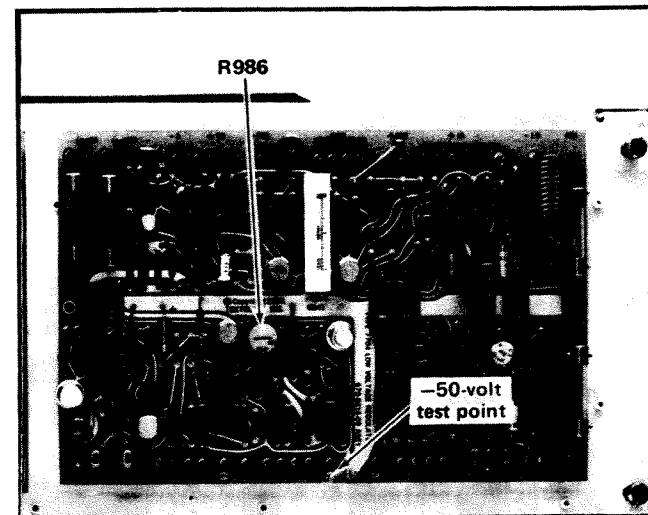

Fig. 5-4. Location of -50 Volt adjust R986 and test point.
a. Connect the precision DC voltmeter between the -50 volt test point on the power supply Regulator circuit board and ground (see Fig. 5-4).
c. ADJUST— -50 Volt adjust R986 (see Fig. 5-4) for a meter reading of exactly -50 volts.